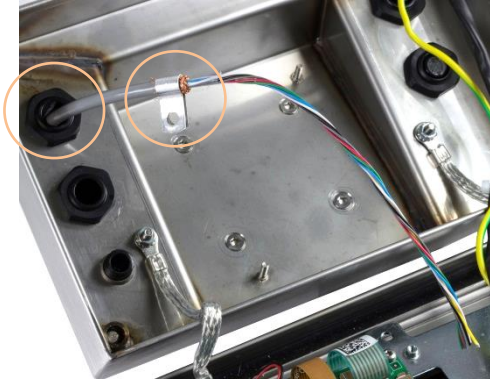

Figure A-27: Load Cell Cable Entering IND236 Enclosure, with Chassis Ground Clip
1. The load cell cable is routed into the enclosure through the cable gland indicated in Figure A-27.